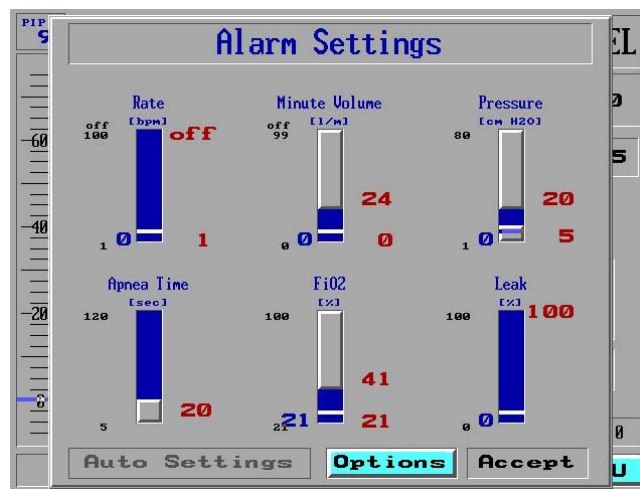

Figure 141: The Options Selection Selected on the Alarm Settings Screen
1. From the Main screen select **Menu - Alarm Settings**. The **Alarm Settings** screen is displayed (Figure 141).